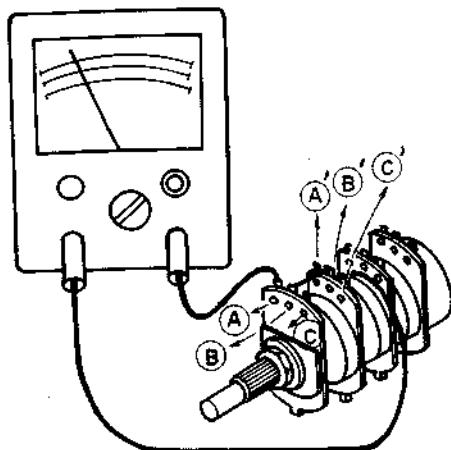

Fig. 2-9-1 BALANCE Control Setting
- (a) With a piece of hook-up wire, solder between center terminals ② and ②', measure a resistance between terminals ④ and ④' by an ohmmeter. See Fig. 2-9-1 on next page.